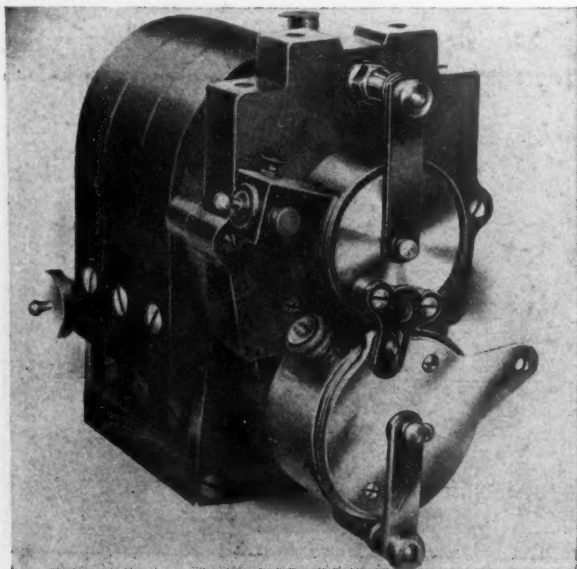
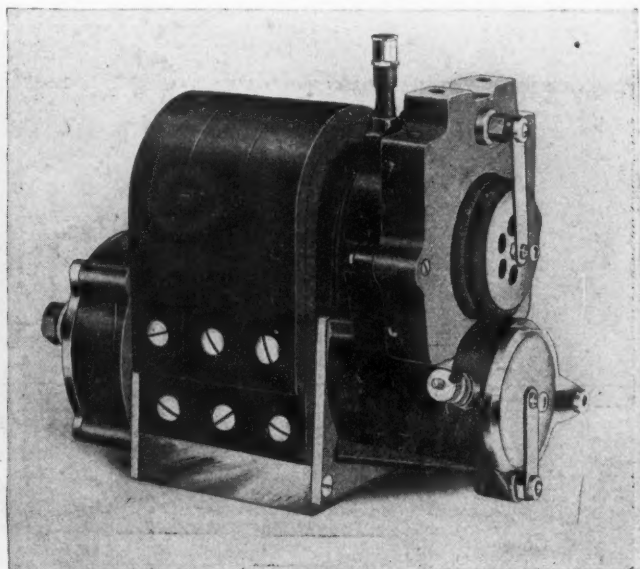

FIG. 10—U. & H. MAGNETO FOR DUAL IGNITION SYSTEM
FIG. 11—U. & H. MAGNETO WITH SELF-STARTER
J. S. Bretz Co.—This concern shows a complete line of German-made magnetos, all of which are characterized by the use of ball bearings throughout, special bearings of this type carrying the armature shaft. The U. & H. magnetos are listed in nine sizes for the coming season. Two of these are fitted with the self-starting device, Fig. 11, which was shown a year ago; one is for a dual system of ignition, Fig. 10; one specially designed for four-cylinder motors under 24 horsepower; and another for three, four, six or eight-cylinder motors with bore not exceeding $4\frac{1}{2}$ inches. In addition there is a line for single-cylinder motors, one for two-cylinder motors, one for single-cylinder motor cycles, and another for two-cylinder motor cycles. All